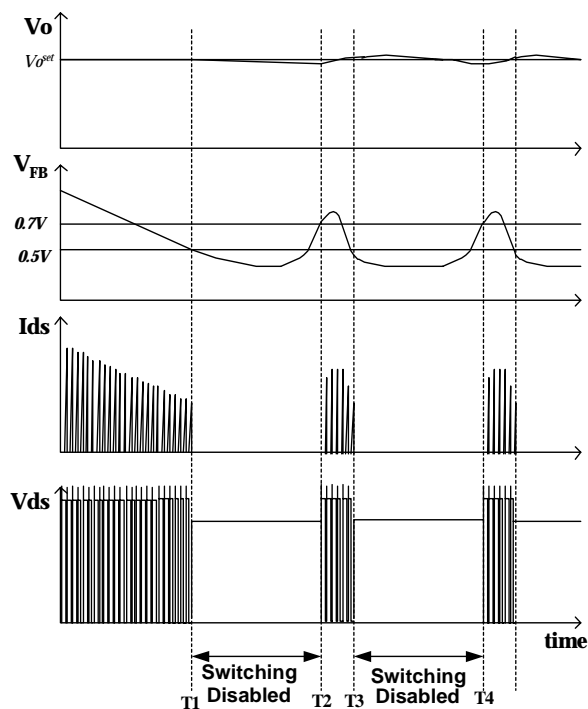

Figure 8. Waveforms of Burst Operation
**5. Burst Operation:** To minimize power dissipation in standby mode, the FSDM0465RB enters burst mode operation. As the load decreases, the feedback voltage decreases. As shown in Figure 8, the device automatically enters burst mode when the feedback voltage drops below  $V_{BURL}$ (500mV). At this point switching stops and the output voltages start to drop at a rate dependent on the standby current load. This causes the feedback voltage to rise. Once it passes  $V_{BURH}$ (700mV), switching resumes. The feedback voltage then falls and the process repeats. Burst mode operation alternately enables and disables switching of the power SenseFET thereby reducing switching loss in Standby mode.